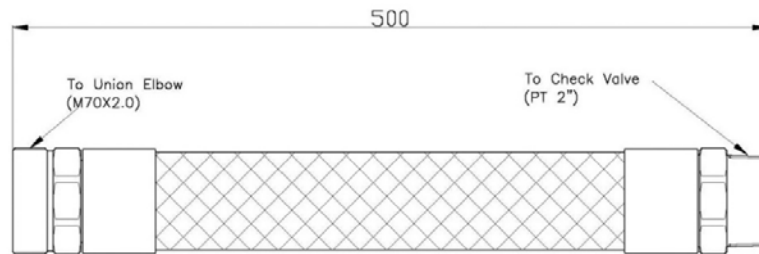

Figure 2.14. Flexible hose 50A.
Flexible hose 50A is used to easily connect the agent cylinder and the manifold. It is also used to enable the flow of agent from its cylinder to the distribution piping via the manifold (supplied separately) during discharge. At one end, the flexible hose 50A has external metric threads and is connected to a union elbow (see Section 2.7) while the other end has external pipe threads (PT) and is connected to the check valve (see Section 2.10). The flexible hose 50A is illustrated in Figure 2.14 corresponding technical data are summarized in Table 2.11.